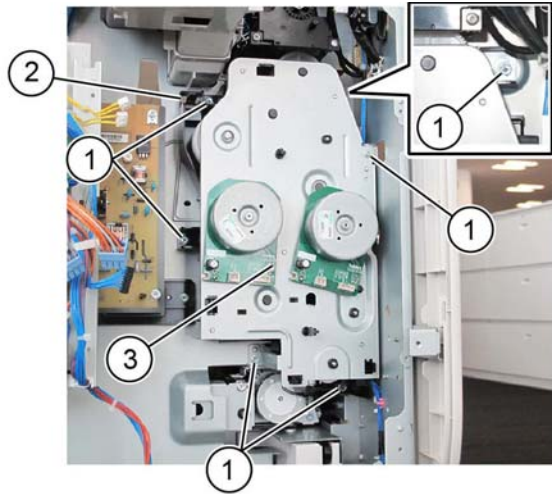

Figure 4 Drive assembly removal
8. Remove the drive assembly, Figure 4:
- a. Remove six screws (1).
- b. Release the latch (2), then remove the drive assembly (3).